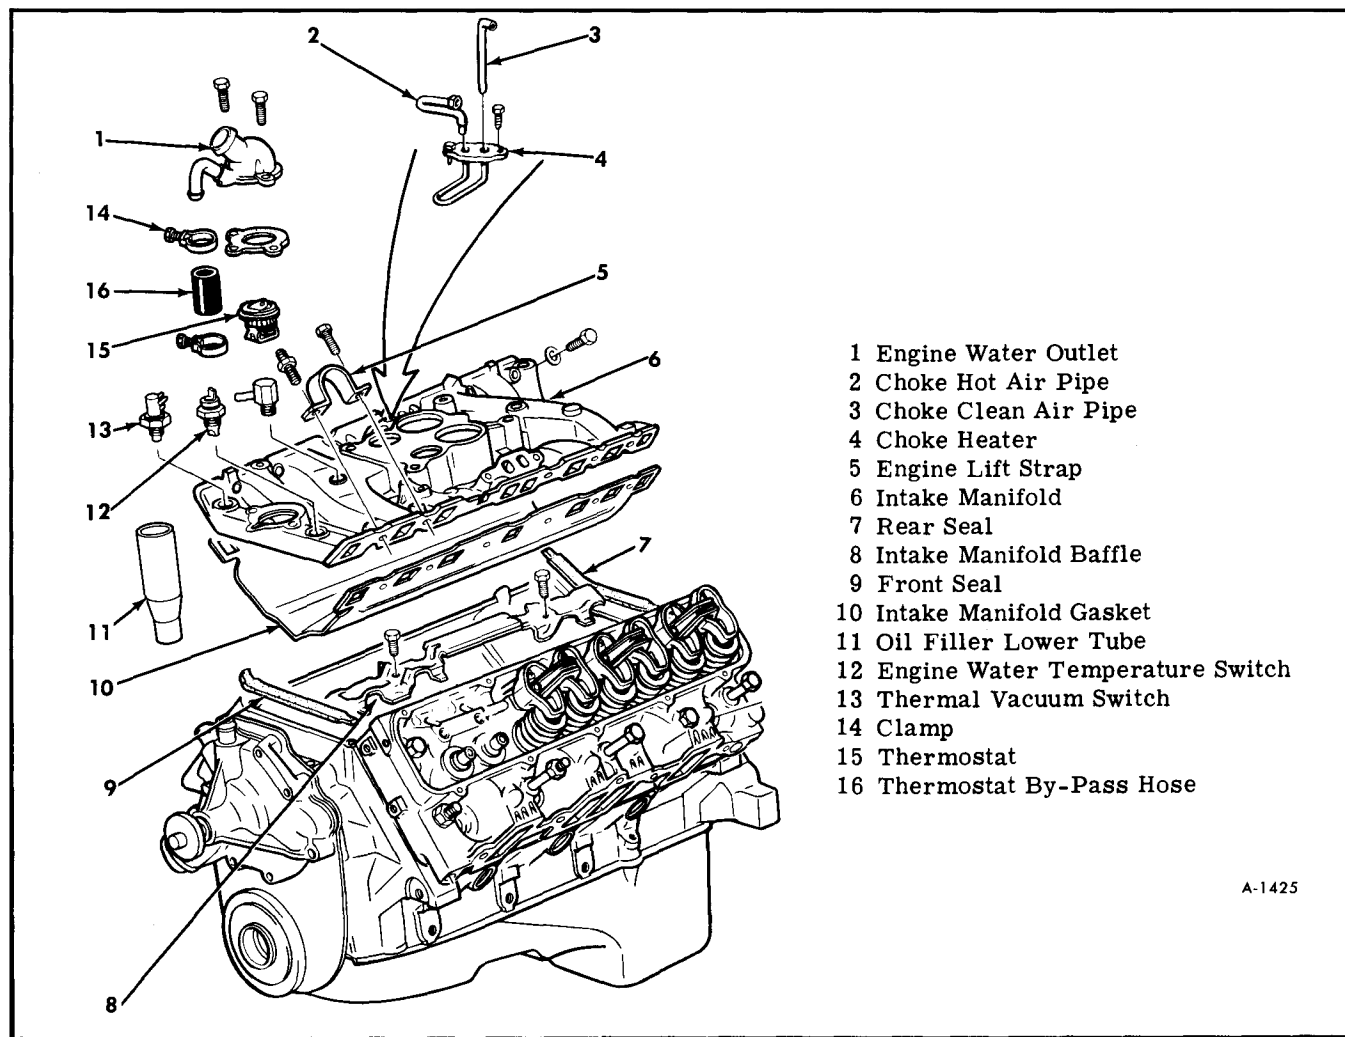

Figure 16—Intake Manifold and Gasket
5. Remove valve cover to cylinder head attaching screws as shown in Figure 16.